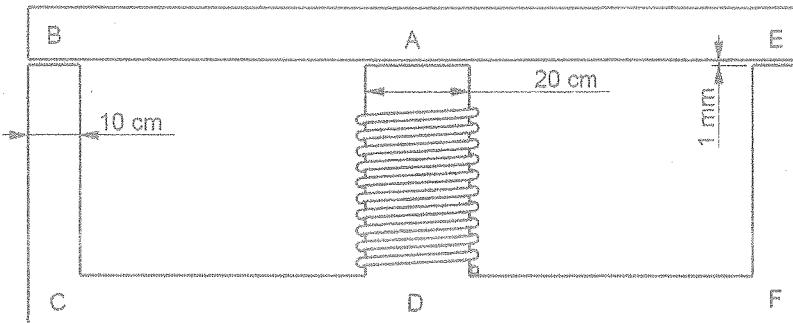

Figure Q1
- Q1 a) The following Figure Q1 shows a cross section of an electromechanical actuator. The air gap is 1 mm as shown in the figure. The model has a depth of 10 cm. The mean length of AB+BC+CD is 300 cm and the mean length of AE+EF+FD is equal to the mean length of AE+EF+FD. The mean length of the path AD is 30 cm. The relative permeability of the material used is 7000 and the permeability of free space is $\mu_0 = 4\pi \times 10^{-7} \text{ Hm}^{-1}$. A magnetic flux of 150 mWb is required at the air gap near point A. (Note: The given mean lengths include air gap length.)